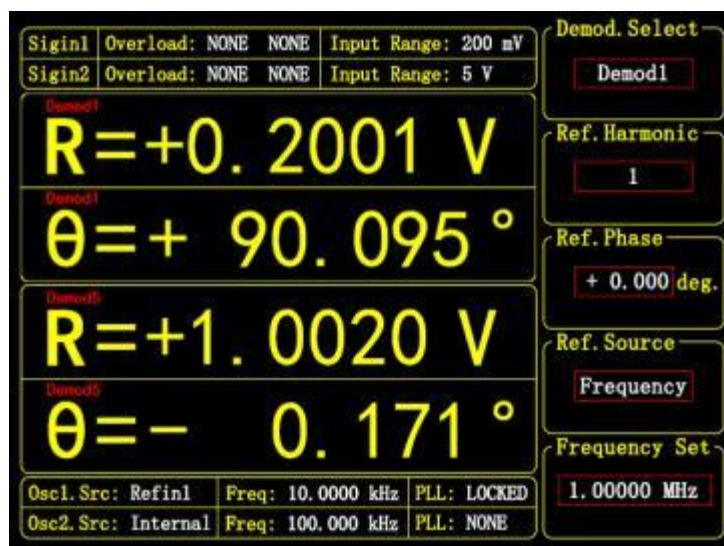

Figure 51. <Frequency> Mode Interface
- <Frequency>: Set the reference source of the current modem to any frequency. The interface for this mode is shown in Figure 51.